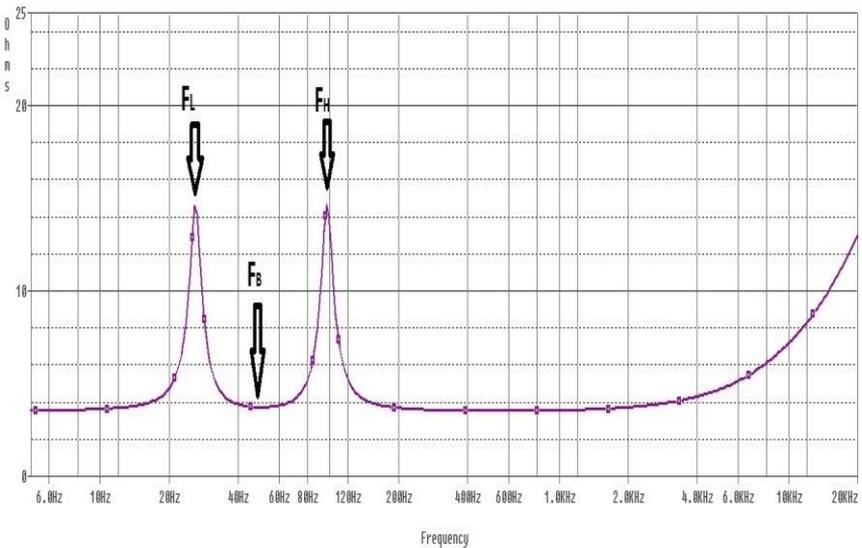

Figure 6, the impedance curve of a single 4 ohm voice coil subwoofer in a single reflex bandpass enclosure (4th order). Bandwidth is approx. 30 – 90 Hz
5. After the unit is operating, turn the frequency down as far as it goes. Then slowly raise the frequency until a **first** peak in impedance is found. If you go too far and pass the peak, just back down the frequency until the peak in impedance is found. Let us call this frequency peak f_L . See figure 6